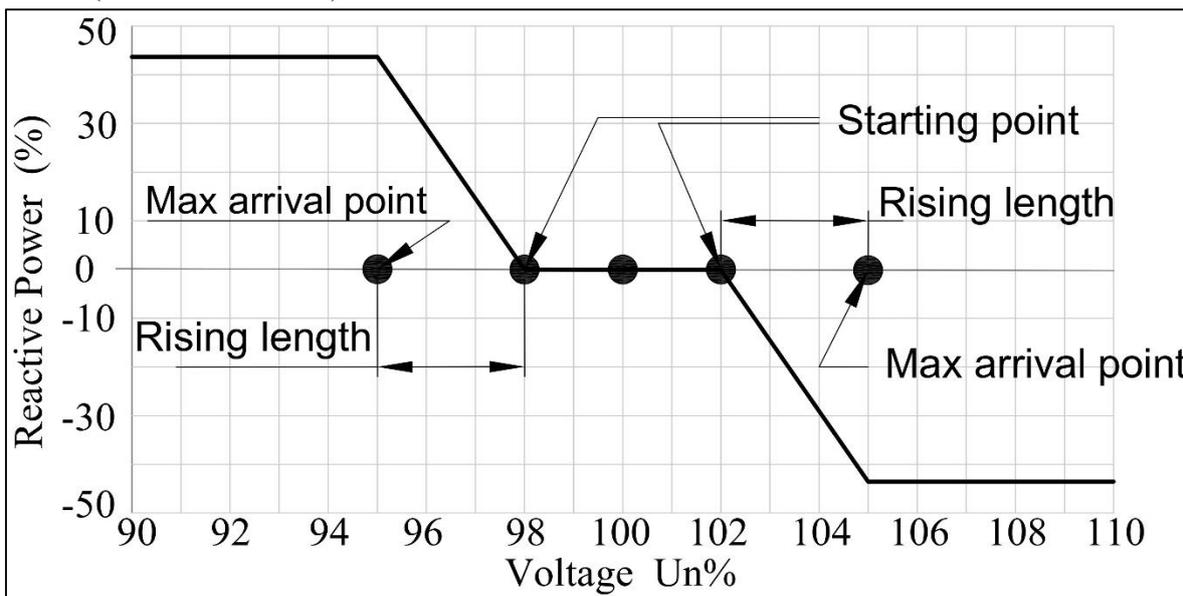

Figure 3.19 QU curve when power factor is 0.9,
- **Reactive Power-Vol curve:** Reactive power-voltage amplitude curve abide by Universal standard. Please set the following parameters as required: *Starting point of Q-U%*, *Rising length of Q-dU%*.For example, As shown in the figure 3.19, QU curve when power factor is 0.9, From the power factor of 0.9, we can calculate the maximum reactive power as 43.59%* apparent power) .